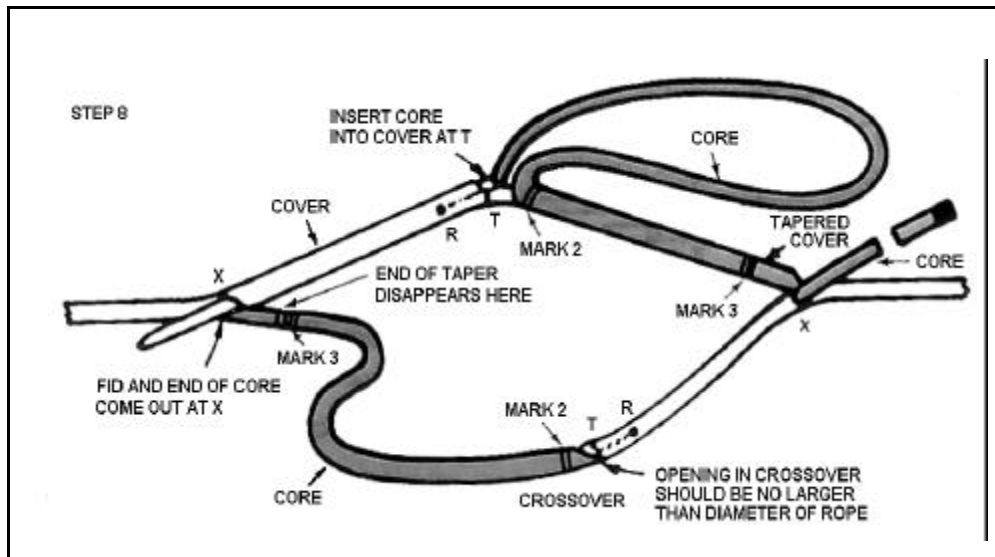

Figure 12-73. Reinserting the Core Into Cover
- STEP 8 -- Reinserting the core into cover.** Now put core back into cover from point T to point X (see Figure 12-73, page 12-60). Insert fid at point T, jam taped core tightly into end of fid. With pusher push fid and core through cover, bringing out at Point X. When using wire fid, attach fid to taped core. Then pull fid and braid through from point T to point X. Do this to both cores. Remove tape from end of cover. Bring crossover up tight by pulling on core tail and on tapered covered tail. Hold crossover tightly, smoothing out all excess braid away from crossover in each direction. Trim end of tapered cover on an angle to eliminate blunt end. Tapered cover tail will disappear at Mark 3. Cut core tail off at an angle close to point X.